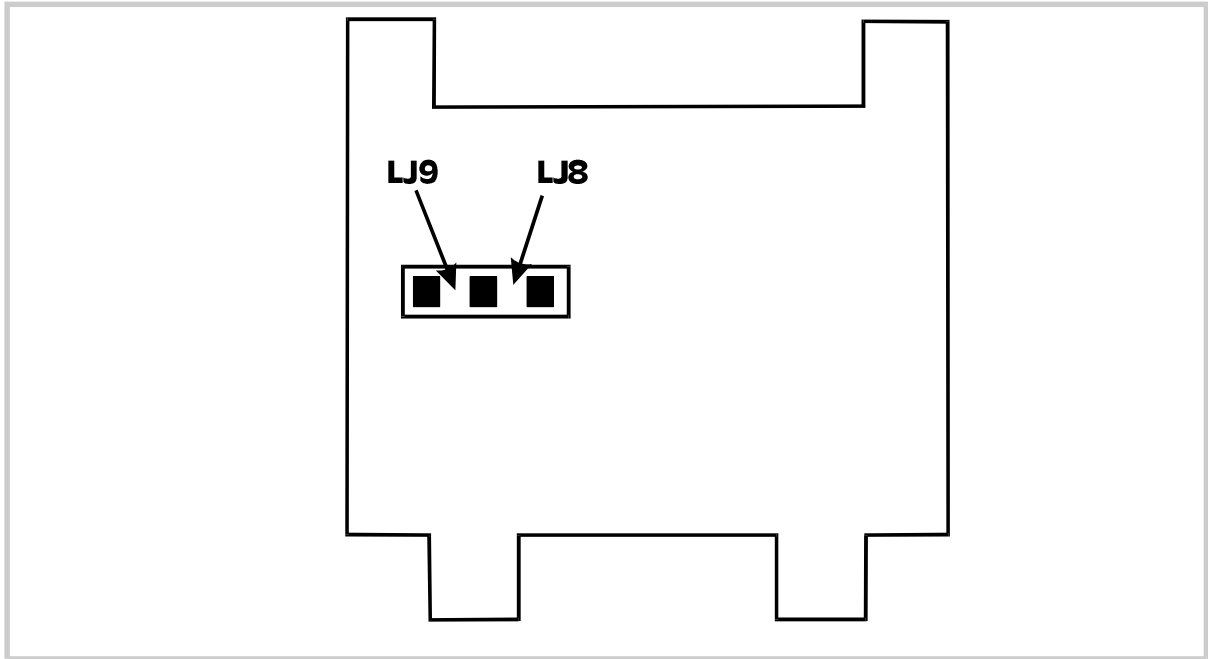

Figure 2-8 DC Output Option PCB PCB (Output 2/Output 3)
4. DC Output Option PCB (link jumpers as shown in Figure 2-8)